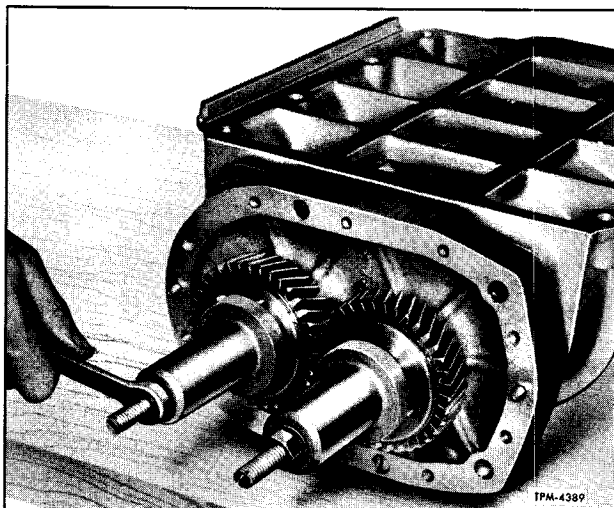

Figure 23—Installing Blower Rotor Gears
3. Attach blower gear installing tools J-6270-6 and J-6270-7 with puller screws J-6270-8 and J-6270-9 threaded into blower shafts as illustrated in figure 23. Install lower gear first until $\frac{3}{8}$ " of splines protrude.